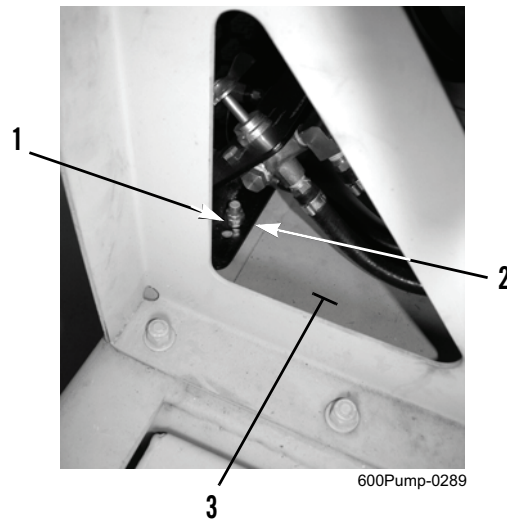

Figure 1. Fuel Selector Panel.
1. Remove two locknuts (Figure 1, Item 1) and fuel selector panel (Figure 1, Item 2) from trailer (Figure 1, Item 3). Discard locknuts.